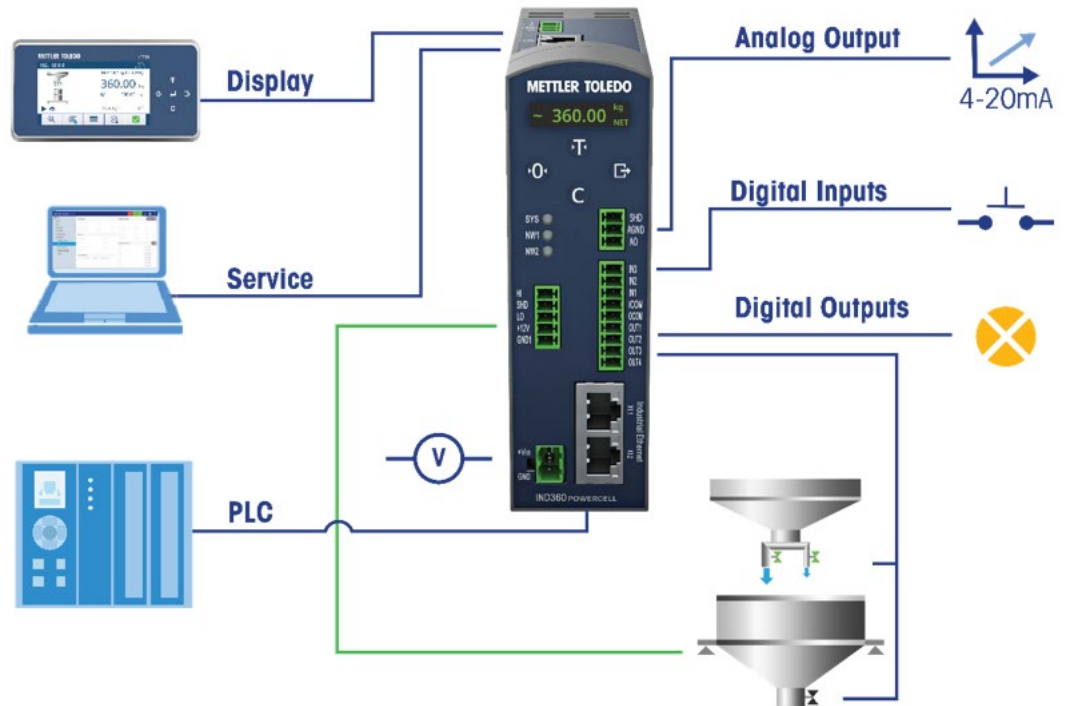

Figure 2-1: Wiring Chart for a Fill Application System
Figure 2-1 shows a typical system layout with an IND360 DIN/Panel mount version and a fill/dose system.
- Figure 2-1 shows a setup for filling and an associated dump. For a dosing setup, the digital outputs are wired to the feeds and the refill signal.